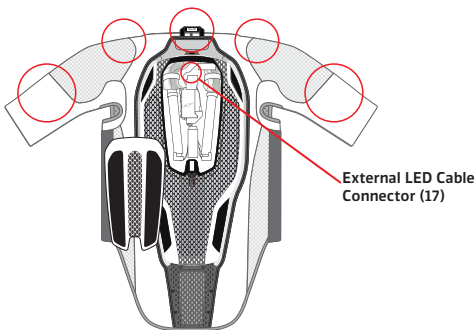

Figure 12: Velcro Attachments and External LED Display Connector (17) Locations
1. System Preparation. Remove the Converter (3) and make sure that all the Velcro attachments present on the Base Layer (1) do not have their protective covers attached. There are 5 Velcro attachments (Figure 12): 4 placed on the shoulder areas and 1 positioned on the neck area. If the protective Outer Garment is equipped with a compatible Tech-Air® LED Display integrated inside the sleeve, it is possible to connect the System to the external LED Display using the External LED Display Connector (17) located underneath the Back-Protector (5) cover through the opening shown in Figure 12.